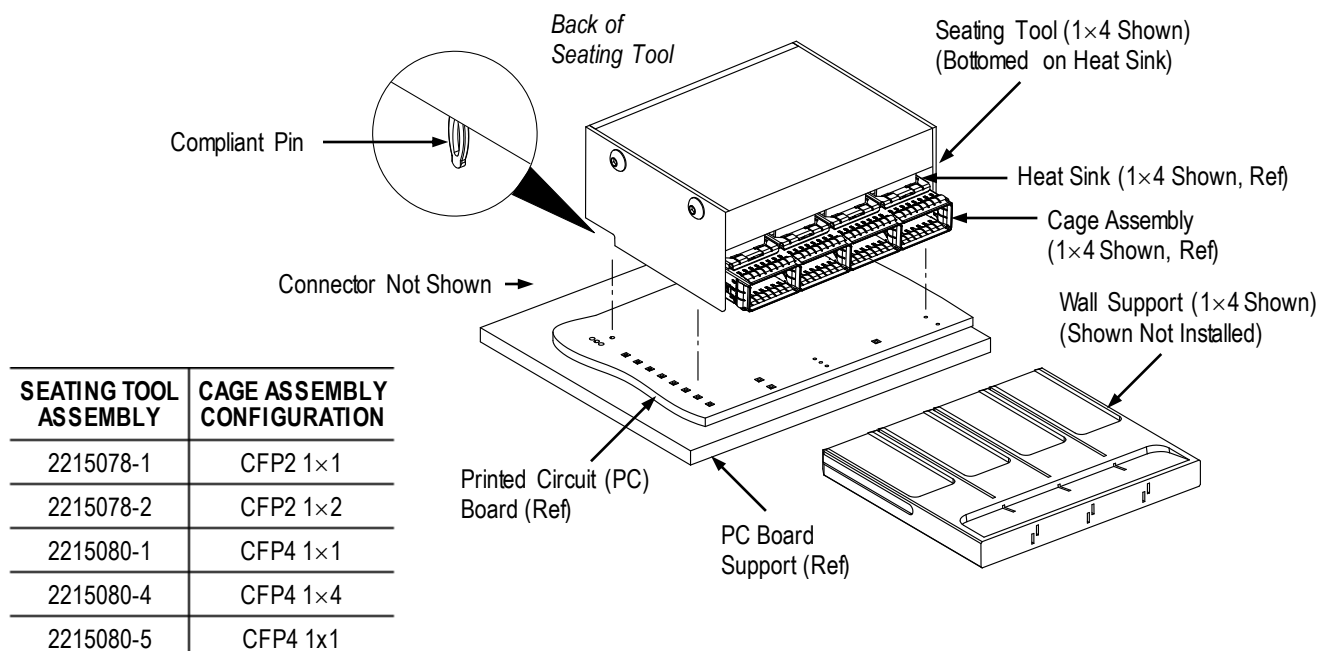

Figure 1
The cage assembly seating tool assemblies listed in Figure 1 are used to seat the cage assemblies listed in Figure 1 onto the pc board. The heat sink must be installed onto the cage assembly before seating. The cage assembly contains compliant pins to allow solderless pc board installation. The seating tool assembly is not designed to seat the connector.
4. Slide the wall support into the ports of the cage assembly until the wall support is secure. Refer to Figure 1.
- Added new part number and related information to tables in Figures 1 and 3